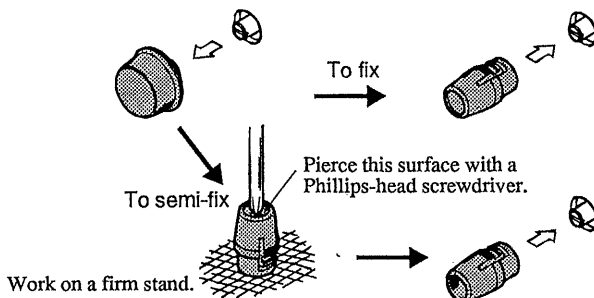

Fig. 2-12 Mounting the guard cap
- ① Check that the OUTPUT switch is turned off.
- ② Turn on the POWER switch.
- ③ While pressing the LIMIT switch, preset the output level (voltage and/or current) to a desired value. Here, a rough presetting is acceptable.
- ④ Pull out the VOLTAGE and/or CURRENT control (knob) without turning it.
- ⑤ While pressing the LIMIT switch, use a flat-head screwdriver, and preset the output to a desired value.
- ⑥ Push in the guard cap, instead of the removed knob.
- ⑦ Press the LIMIT switch again to confirm the presetting is not changed.
- ⑥ As shown in Fig. 2-12, pierce the guard cap top with a Phillips-head screwdriver.
- ⑦ Push in the guard cap, instead of the removed knob. Since the guard cap is pierced, the output level may be readjusted using a flat-head screwdriver.